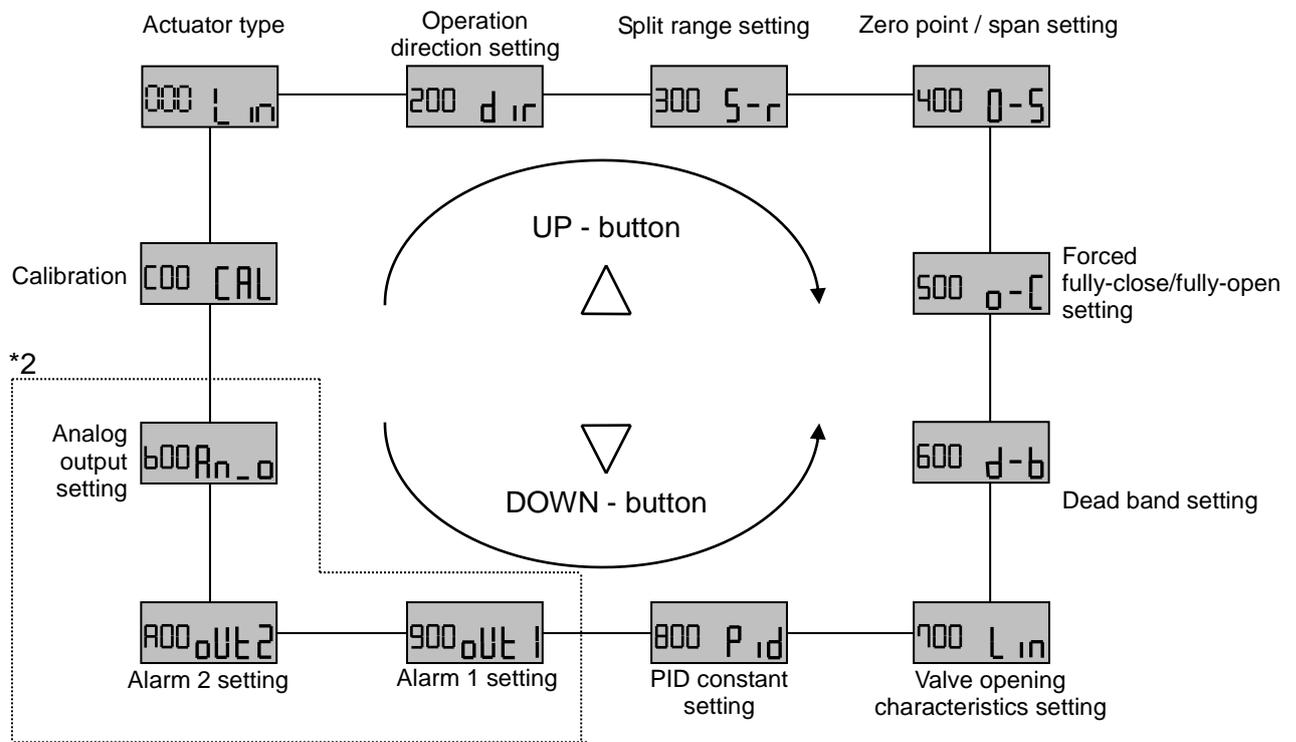

Fig.22
- (1) When an input current is entered for the first time, only the parameter mode can be selected. According to "Initial Adjustment", calibrate the positioner.
- (2) After (1), the auto mode is displayed first when an input current is entered.
- (3) The parameter code is shown in Fig. 22. The standard type and HART communication type has 8 setting items. The output function type and ATEX type has 11 setting items. Select the parameters in order with the UP / DOWN button (∇ or Δ).
- (4) Parameters stop with parameter codes flashing, and the codes can be changed by pressing the set button ($\text{C} + \Delta$) for 1sec. or more. Push the UP / DOWN button (∇ or Δ) to modify a value. After the value is decided, push the mode button (C) to go back to the parameter code flashing status^{*1}.
- (5) To enter the lower hierarchy, hold down the set button ($\text{C} + \Delta$) for 1sec. or longer. To go back, hold down the mode button (C) for 1sec. or longer, to display a sub menu.
- (6) See the next page, "Parameter Code Detail" for detail of parameter codes.
*2: The parameter surrounded by a broken line in Fig. 22 will not be shown for the standard type (IP8001-0*0) or the product with HART communication (IP8001-0*3).